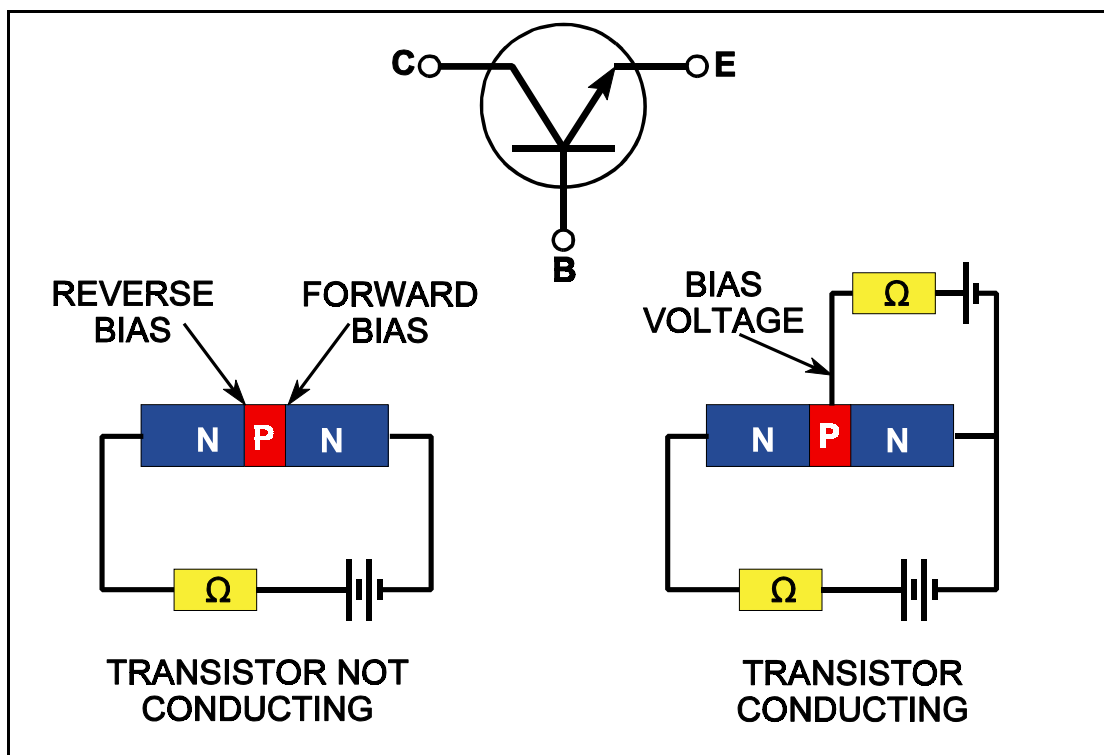

Figure 17.9 Transistor Conduction
**Operation. N-P-N Transistor:** If we apply an e.m.f. across the Collector - Emitter region, as shown in Figure 17.9 left, no current flows.
However, if we now add an e.m.f. between across the Base - Emitter region, as shown in Figure 17.9 right, a large current flows from Emitter to Collector.